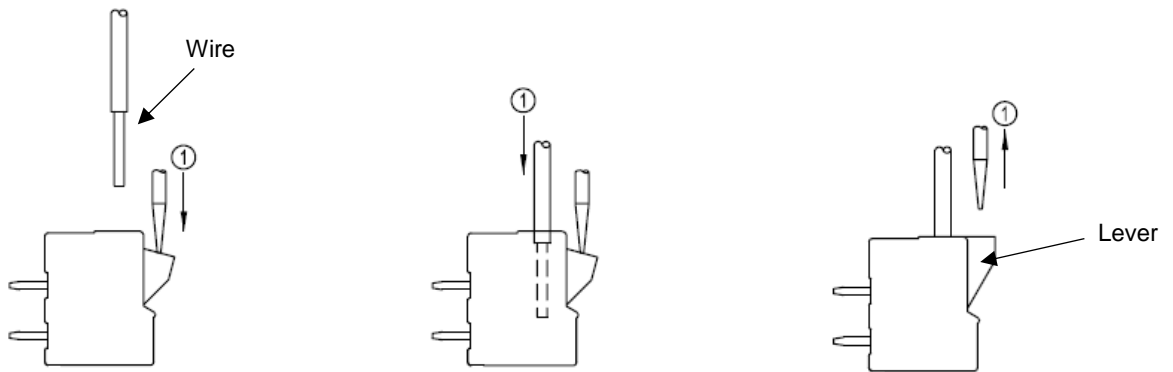

Figure 3
2. Wire Inserting: see Figure 3